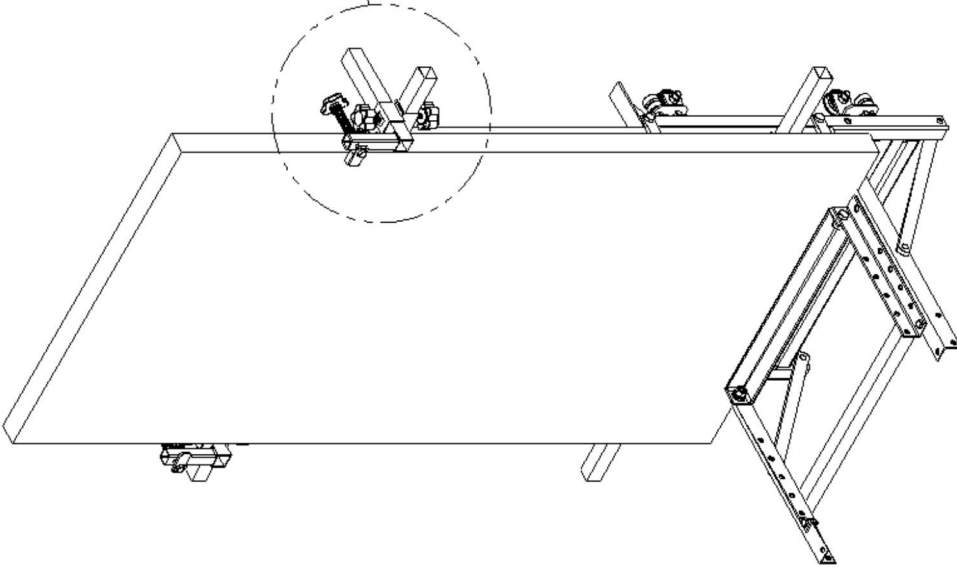

Figure 6
7. With the solar panel in place, turn the spring bolts (10) so they grip onto the frame of the solar panel as shown in Figure 6.